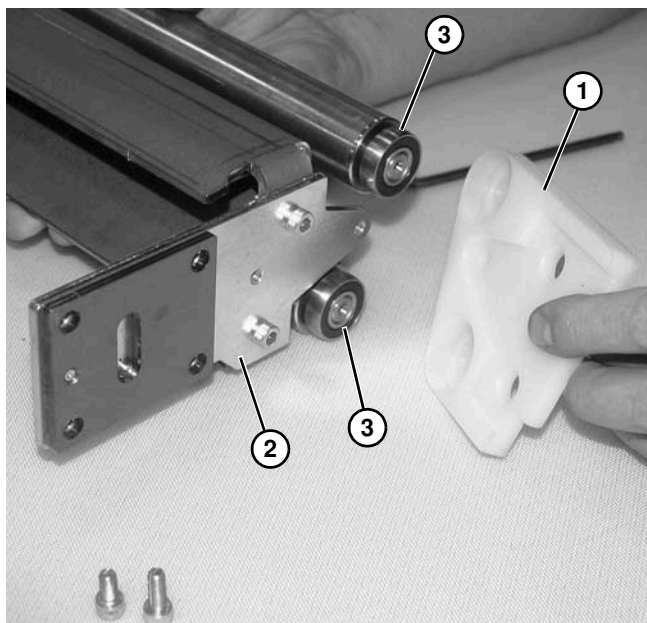

Figure 134
8. Remove spacer plate (Figure 134, item 1) from backing plate (Figure 134, item 2) and two roller bearings (Figure 134, item 3).